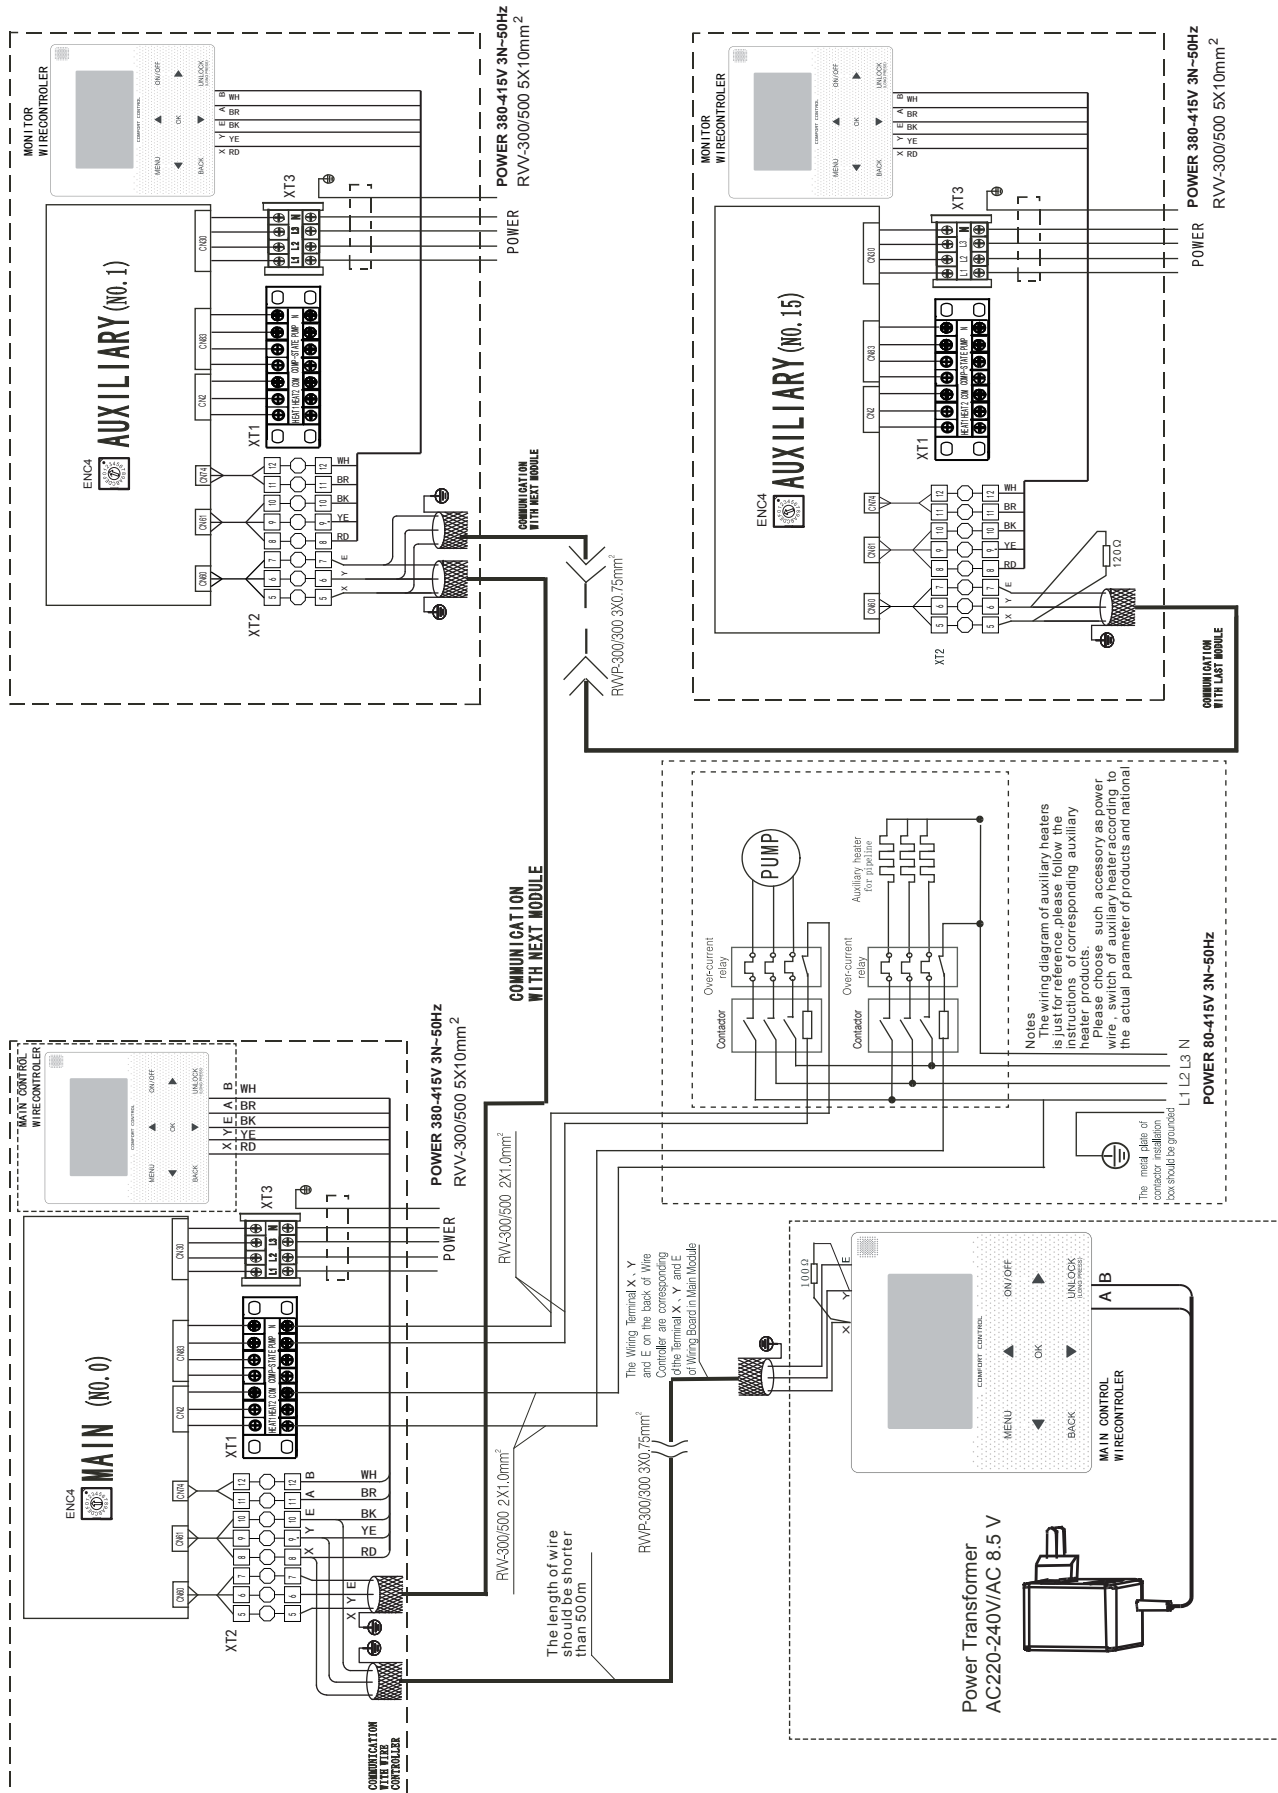

Fig. 8-18 Networking communication schematic of main unit and auxiliary unit for SCV-300EB
c) Units must with a main unit controls (Please see Fig. 8-18 for the controls wiring diagram).